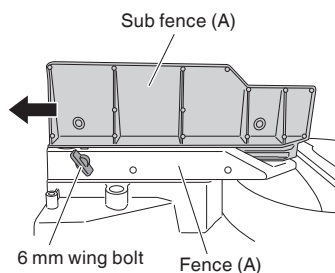

Fig. 10
When right angle cutting, loosen the 6 mm wing bolt, then slide the sub fence (A) outward and remove it, as shown in Fig. 10.
5. Confirmation for use of sub fence (B)